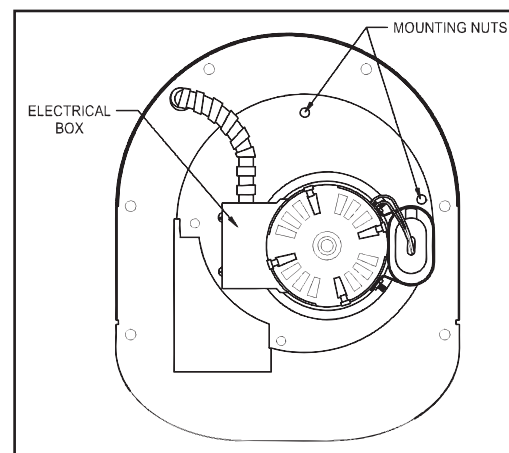

Figure 15
2. Disconnect the conduit connector from the motor conduit box by loosening the screw on the side of the connector. Pull the wires and wire nuts out of conduit box hole and remove the wire nuts. **NOTE:** Wiring disconnection may not be necessary for inspection and/or cleaning only. (See Figure 15)